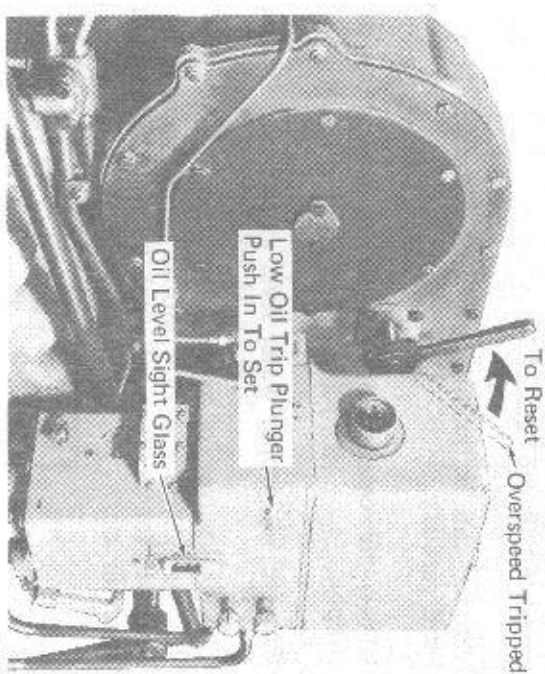

Fig. 3-2 - Engine Overspeed Trip Reset Lever And Low Oil Trip Plunger
1. Check to see that engine overspeed trip reset lever is set, Fig. 3-2.
2. Observe that governor low oil pressure trip plunger, Fig. 3-2, is set and that there is oil visible in the governor sight glass.